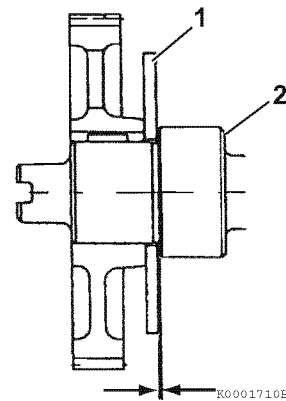

Figure 6-49
- **Method B:** Use a feeler gauge to measure the clearance between the thrust plate (**Figure 6-49, (1)**) and front camshaft bearing (**Figure 6-49, (2)**). See *Thrust Bearing* on page 6-10 for the service limit.